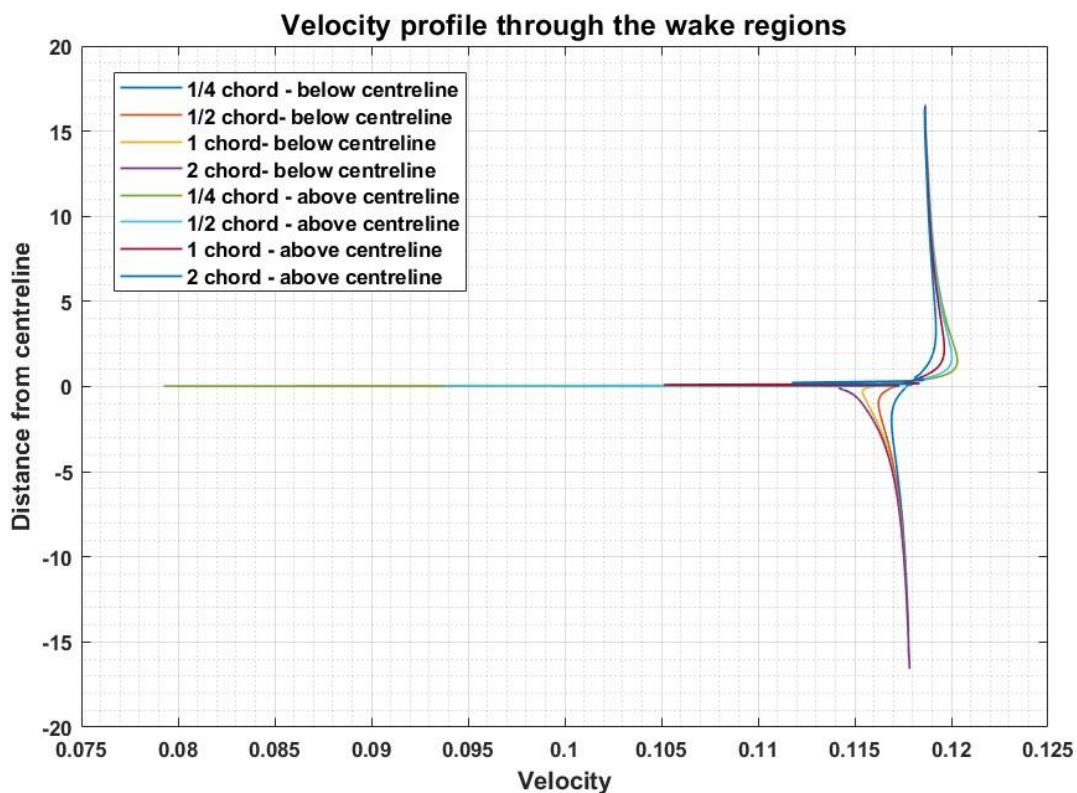
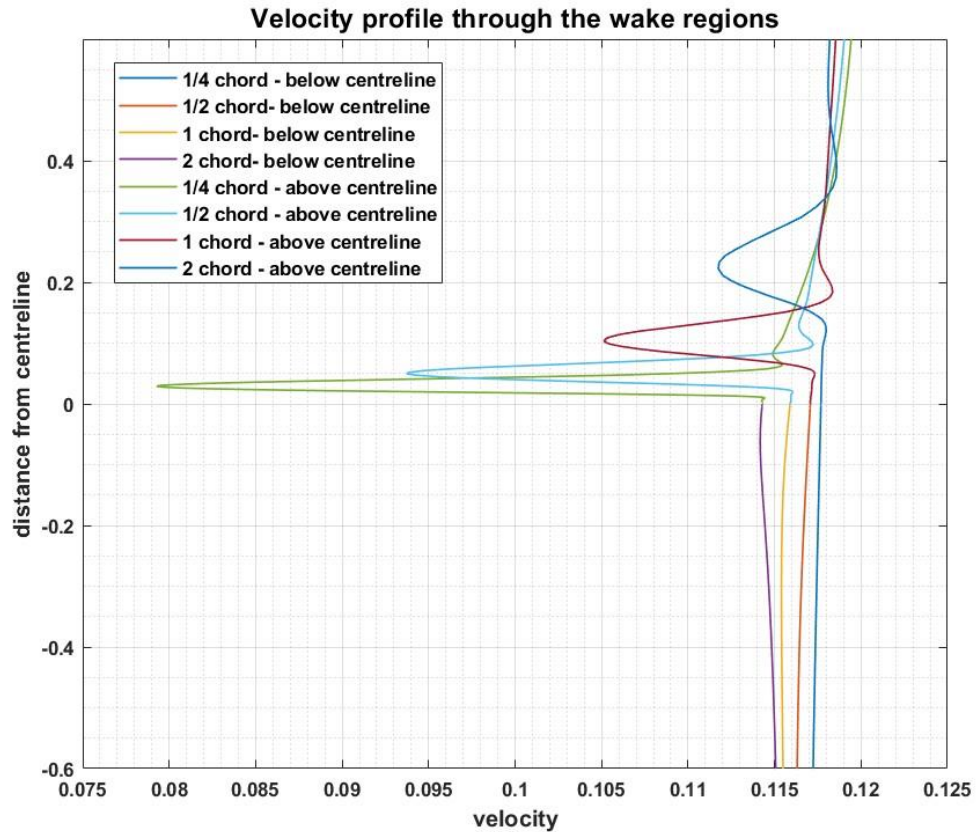

Fig:10 – Velocity Profile through the wake regions
Fig:11 – Velocity Profile through the wake regions- (Detailed)
- Fig 10 shows the velocity profile in the wake regions of the airfoil. Fig 11 shows the detailed plot of the velocity profile.
- For the negative y direction, the wake regions are not seen as shown in Fig 10.